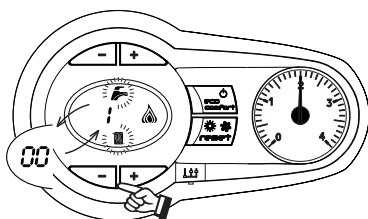

fig. 26 - Test Mode
1. To operate the boiler in test mode, press the CH keys together for 5 seconds (see fig. 26)